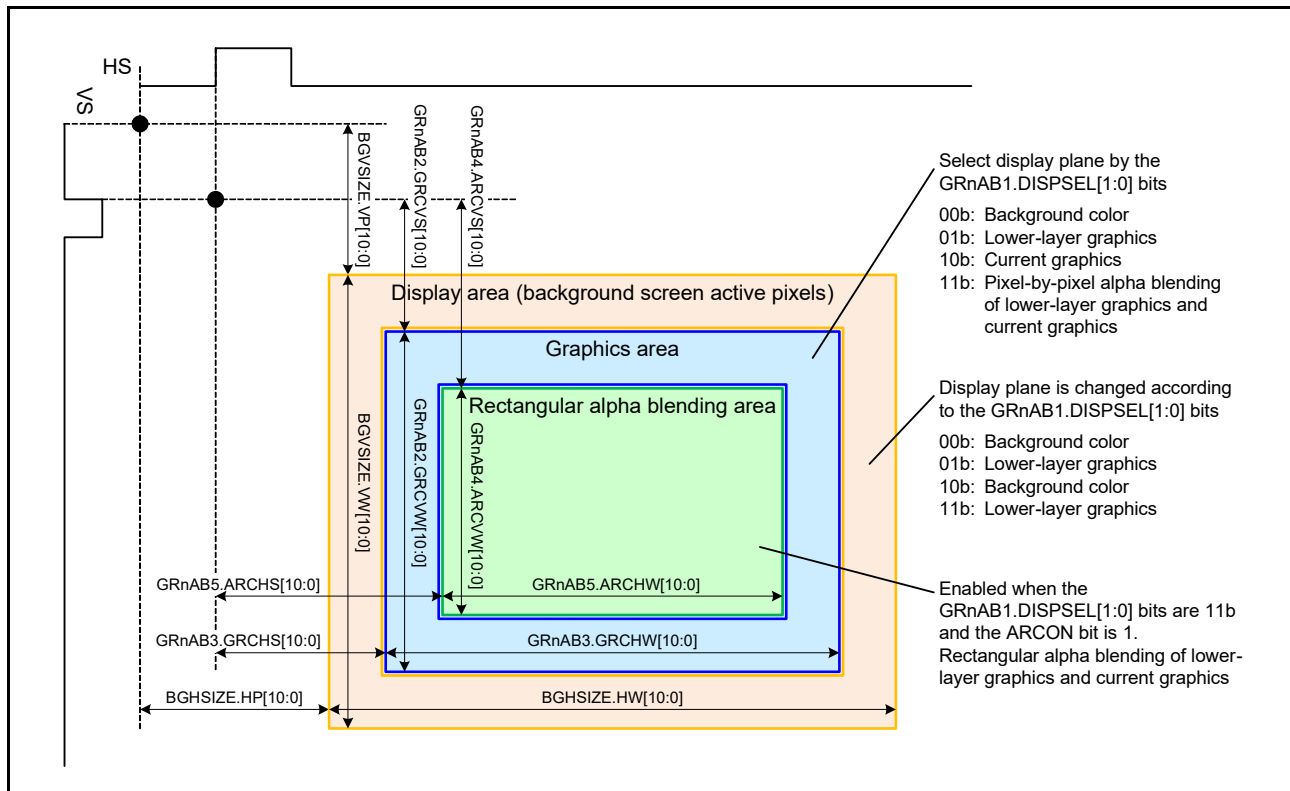

Figure 51.9 Selection of Graphic Display Screen (n = 1, 2)
These bits control the graphic display screen. When the bits are 00b (background color), the background color specified in the GRnBASE register is displayed. When the bits are 01b (lower-layer graphics), the image data input from the previous block is displayed (the background screen for graphic 1, and the output from graphic 1 for graphic 2). When the bits are 10b (current graphics), RGB(888) in data in the ARGB(8888) format, which is generated in the graphics data interface block, is displayed. Table 51.9 lists the relations between the register settings and display on the screen and Figure 51.9 shows the relations among the areas.
For the relation between the register settings and the graphics area size, refer to Figure 51.9.